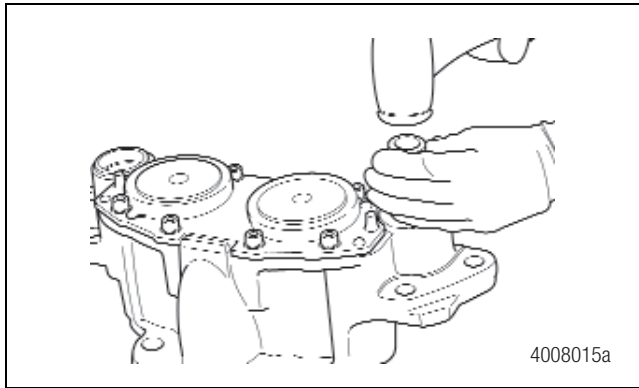
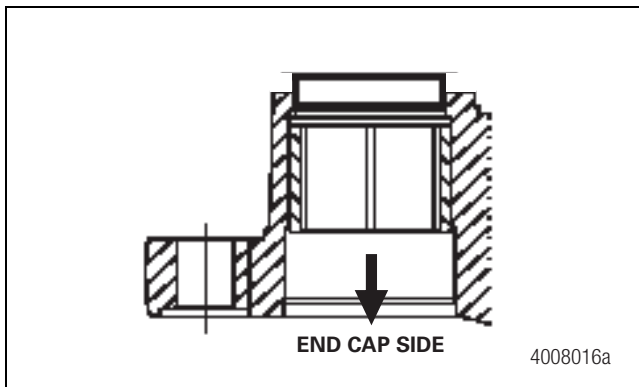

Figure 5.30
Figure 5.31
3. Use Meritor tool MST 1000 to drive out the bushing from the housing. Figure 5.30. Refer to Section 10 for tool details. The bushing must be pushed out in the direction of the end cap side of the bore. Figure 5.31.